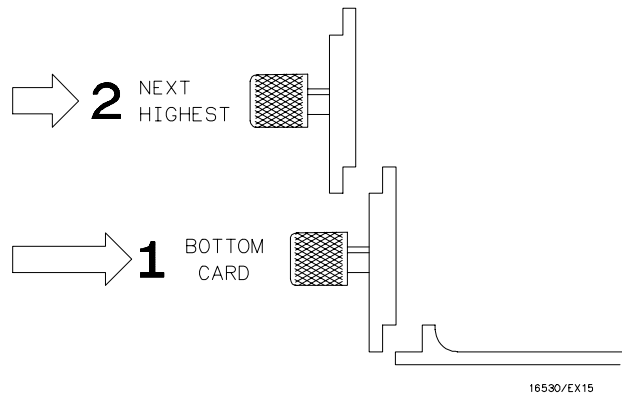

Figure 2-2. Endplate Overlap - Bottom Sequence
7. Repeat step 6 for all cards and filler panels in a **bottom-to-top** order. See figure 2-2.